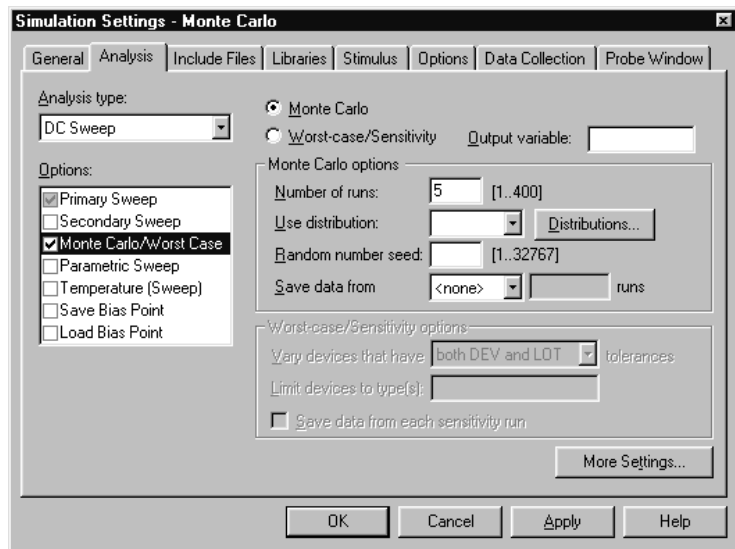

Figure 77 Monte Carlo analysis setup for EXAMPLE.DSN.
- 3 In Capture, set up a new Monte Carlo analysis as shown in Figure 77. The analysis specification tells PSpice A/D to do one nominal run and four Monte